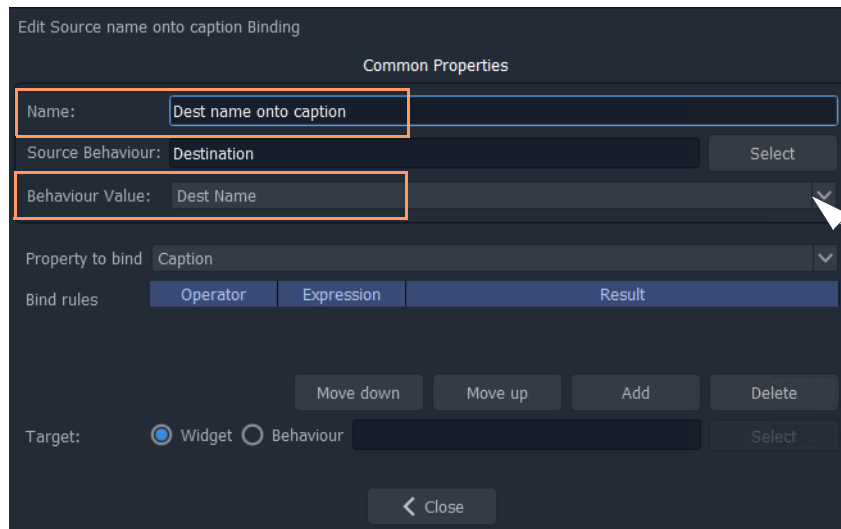

Fig. 14-58: Edit Binding Properties
- 9 Double-click on the Binding to see the Binding's properties. See Figure 14-58.